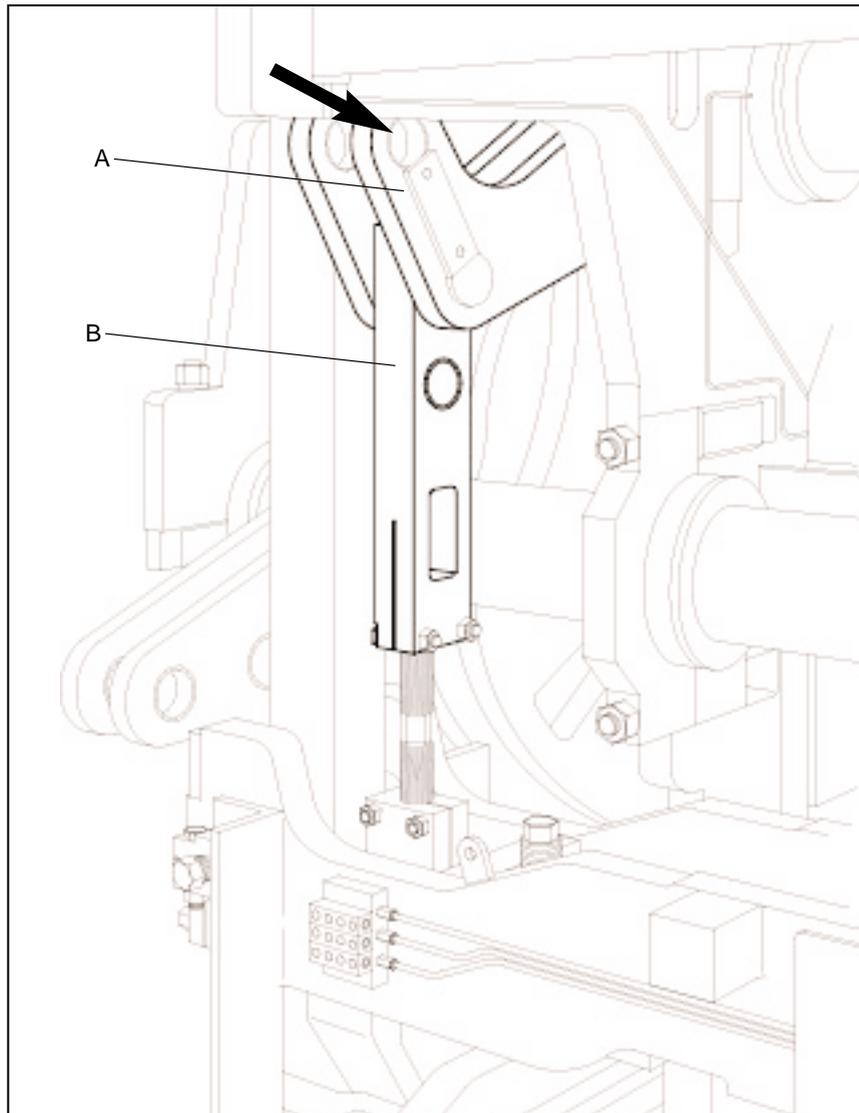

Figure 18.21 STRIPPER HEAD SHAFT AND LINKS.
b. Stripper head shaft (A) - position pins in inside holes (short stroke) (see figure 18.21).
c. Stripper head links (B) - position pins in top holes (see figure 18.21). Adjust links to obtain approximately **70mm [2.75"]** between link ends.